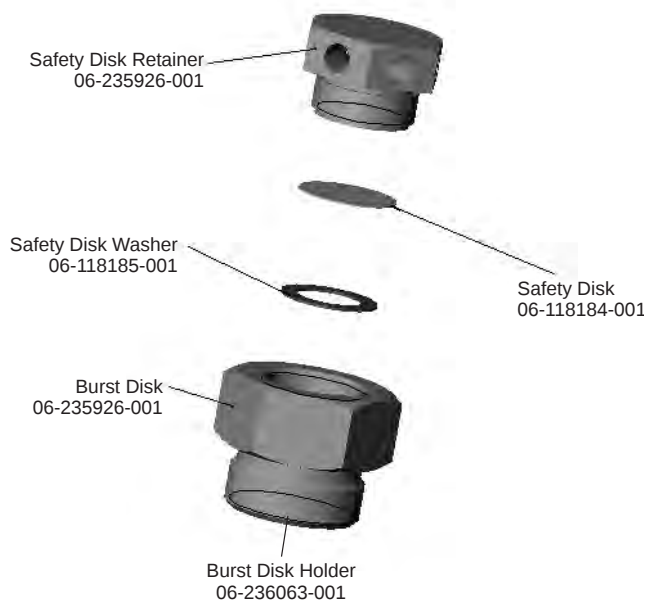

Figure 7-5. Safety Disc
1. Remove the safety disc retainer (see Figure 7-5) including safety disc and safety disc washer from the cylinder body. Discard the safety disc and washer.